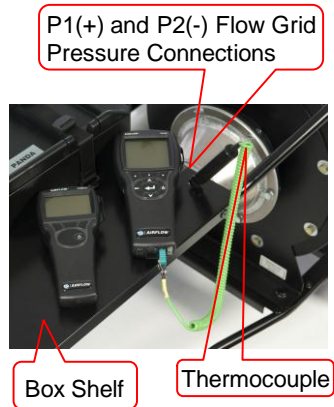

Figure 10. Connecting Instruments to PANDA Tester in High Flow Mode
3. Connect the Model TA465-P to the PAN341 by connecting the (+) and (-) ports on the Model TA465-P to the **P1 (+)** and **P2 (+)** ports located on the inside edge of the box shelf facing the fan. See Figure 10.